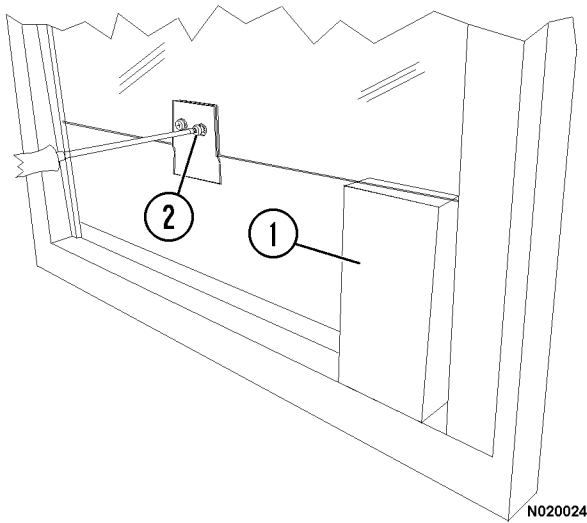

FIGURE 2-9.
8. Support glass in door frame as shown (1, Figure 2-9). Remove screws (2) that hold the adapter for the window regulator track.